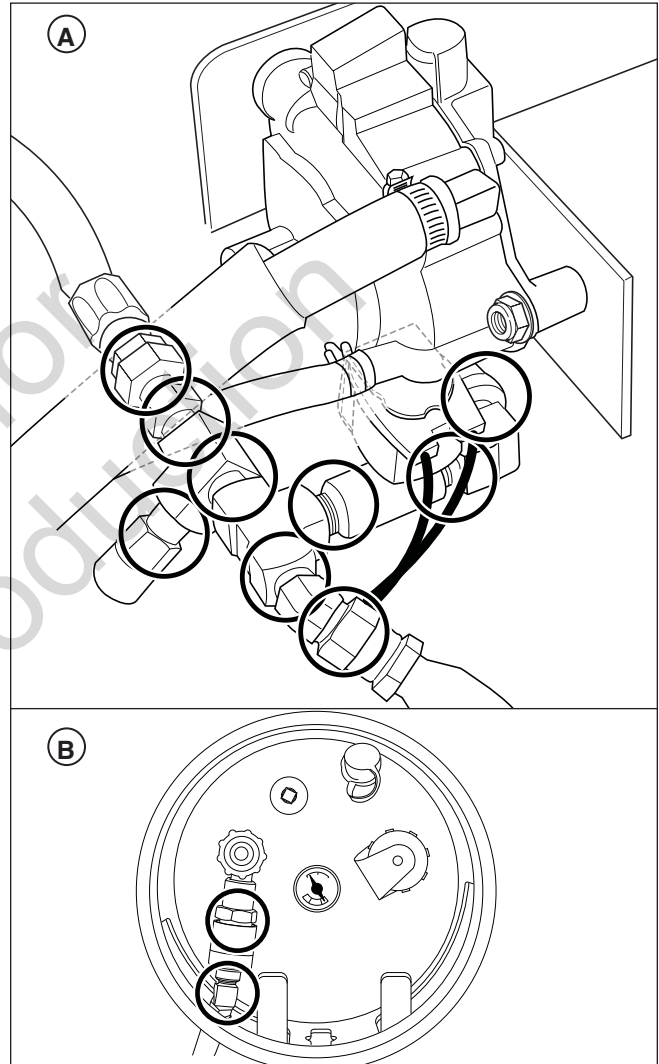

Figure 3. Leak Test Locations
3. Using a sponge, rag or small non-metallic brush, apply the soap water mixture at each of the locations circled in Figure 3.
4. Check each location shown in Figure 3 for growing bubbles, which indicate a fuel leak. Bubbles will look something like this: